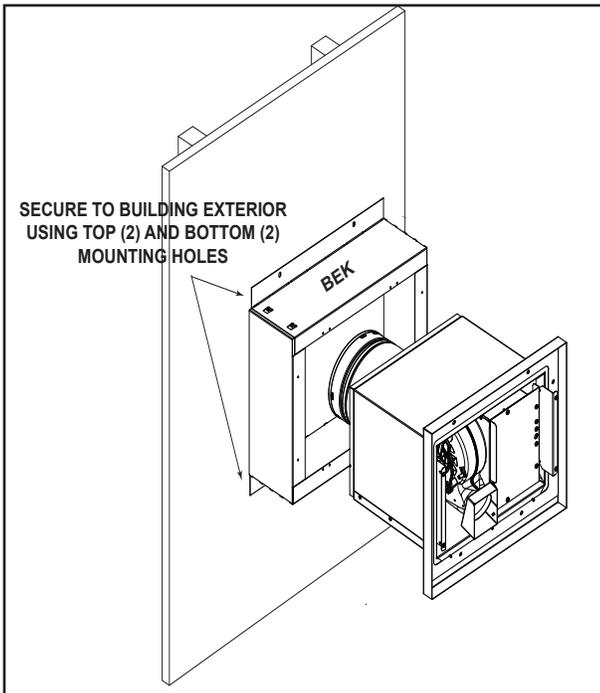
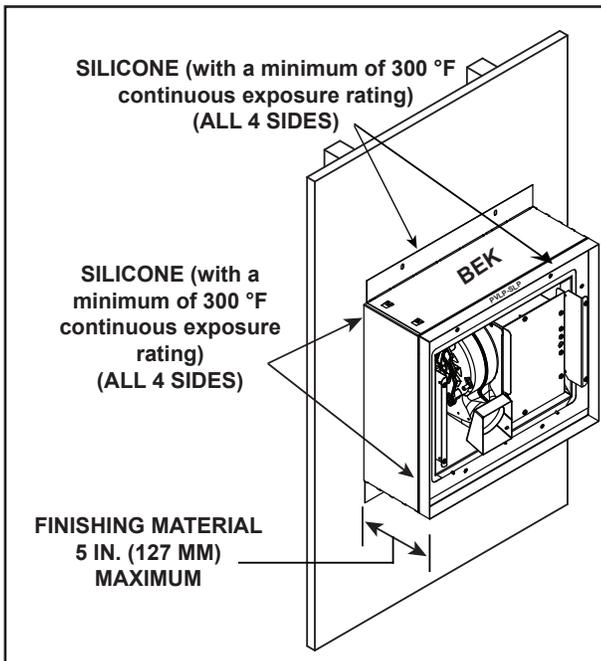

Figure 3.20 PVLP-SLP-AU Attached to LPC-BEK
Figure 3.21 Silicone Weather Sealing
19. Apply a bead of silicone (with a minimum of 300 °F (149 °C) continuous exposure rating) around the entire metal flange of the PVLP-SLP-AU. See Figure 3.22. Align with PVLP-BEK as shown in Figure 3.20. Ensure cap is level and square, then secure PVLP-SLP-AU to PVLP-BEK as shown in Figure 3.21.
20. After the PVLP-SLP-AU has been secured to the PVLP-BEK, silicone (with a minimum of 300 °F (149 °C) continuous exposure rating) should be applied around outer edge of PVLP-BEK where it meets the building exterior. Silicone (with a minimum of 300 °F (149 °C) continuous exposure rating) should also be applied where PVLP-SLP-AU and PVLP-BEK meet, as shown in Figure 3.21.